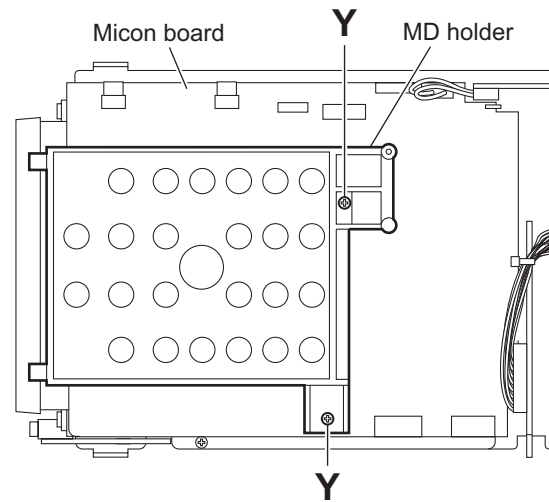

Fig.19
3.1.15 Removing the micon board (See Fig.19)
- Remove the two screws **Y** attaching the MD holder to the micon board. (See Fig.19.)